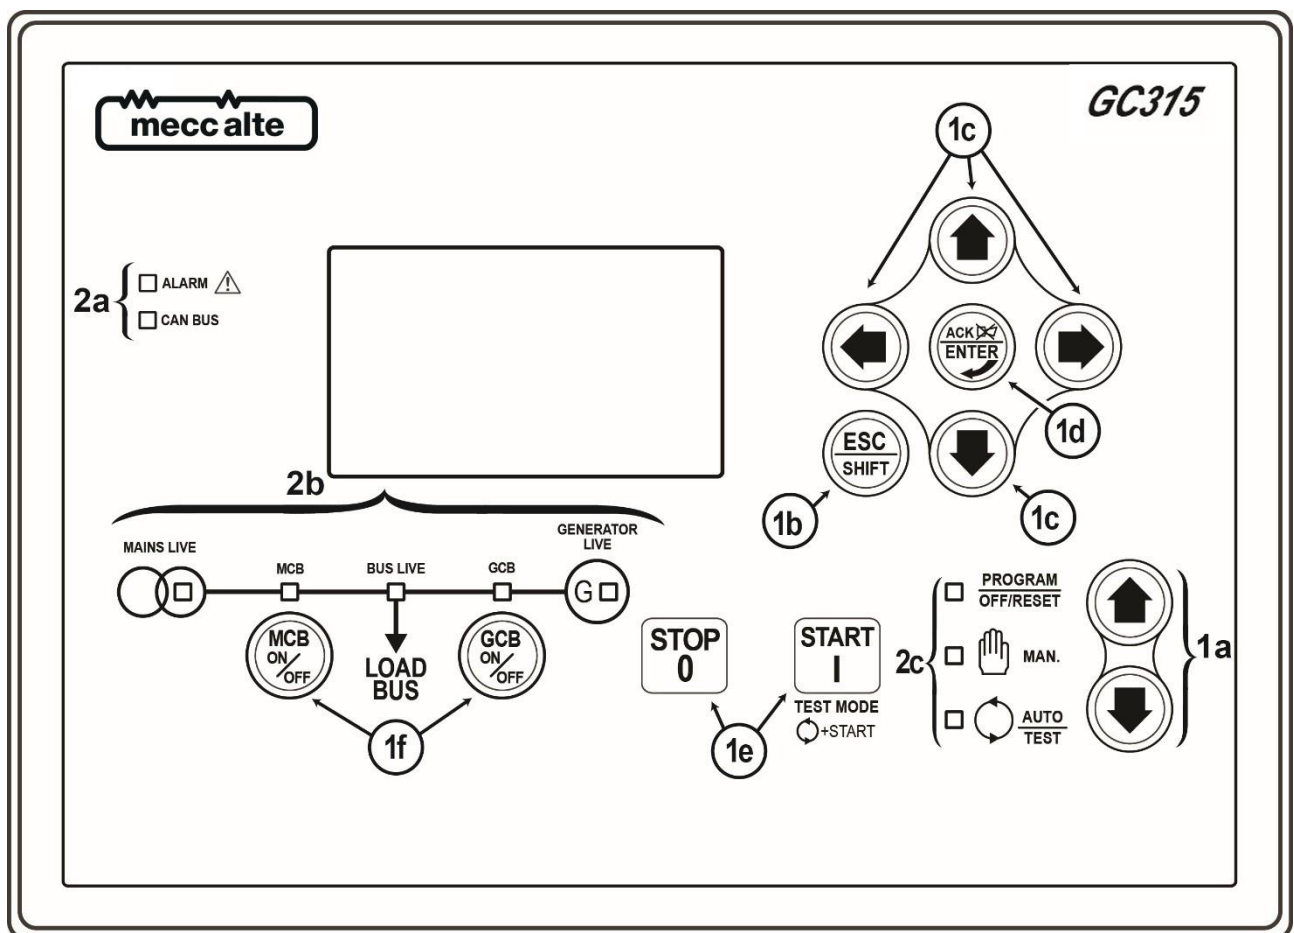

Fig. 1 – Front Panel GC315x
7.3 Selector (ref. to fig. 1)
7.4 Indicators (ref. to fig. 1 and 2)